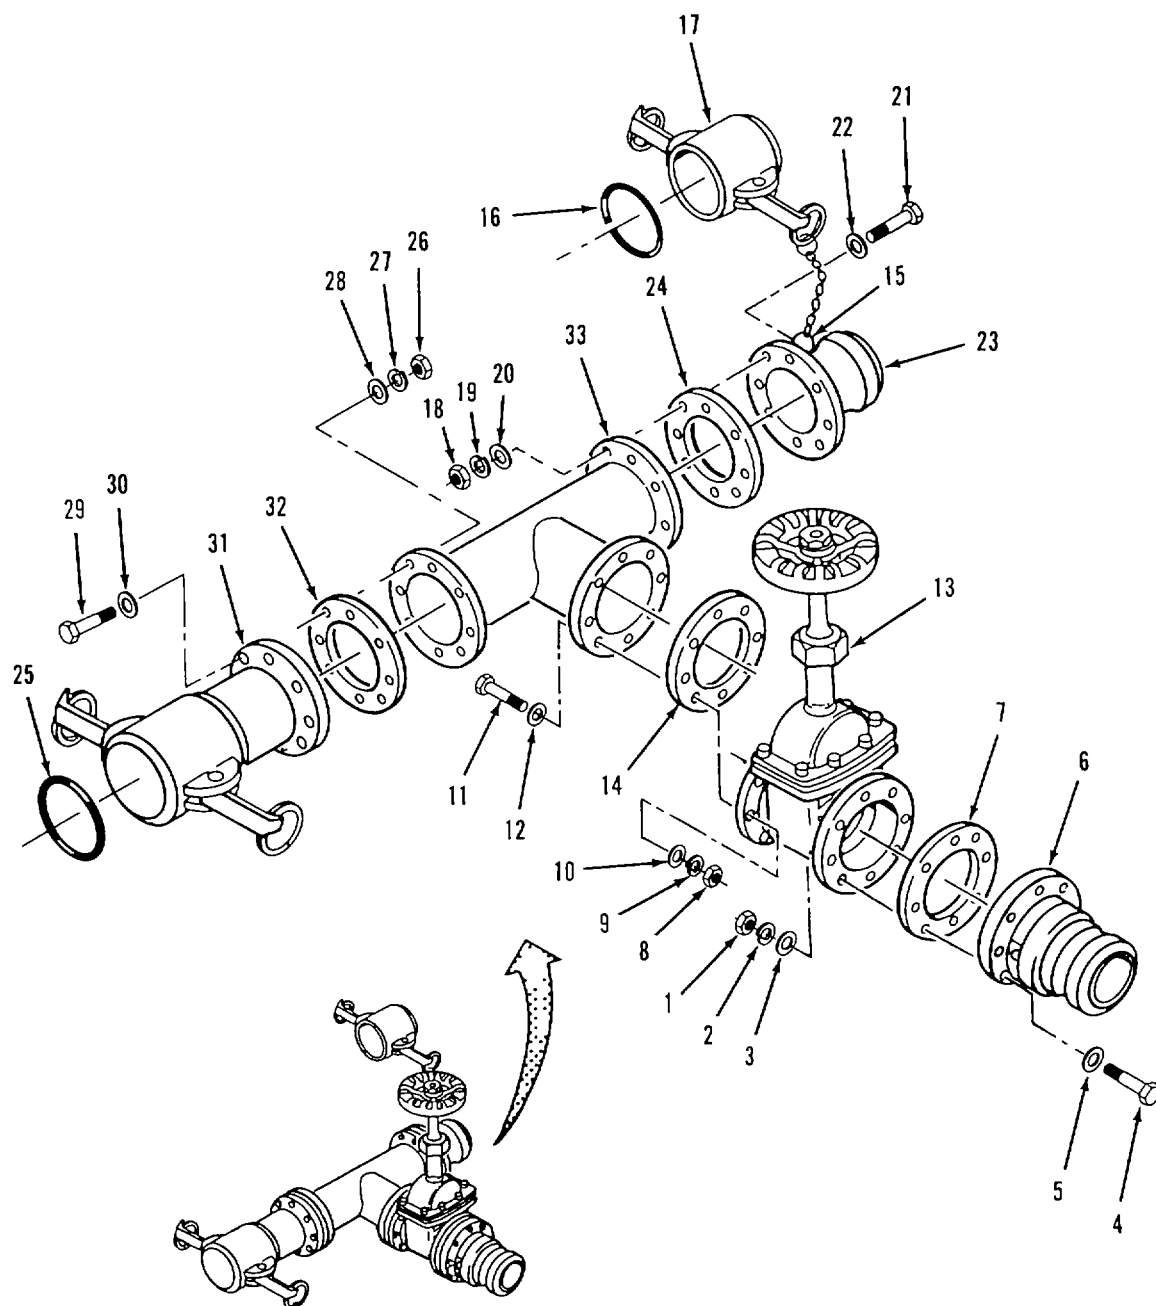

Figure 4-34. Tee and Gate Valve Assembly (9114-Y2) Assembly.
- (1) Refer to para 4-27 to repair gate valve.
- (2) Replace defective components Do not reuse sealing components.
e. Assembly. Refer to figure 4-34.
- (1) Position gasket (32) and female coupling (31) on tee (33).
- (2) Install eight flat washers (30), screws (29), flat washers (28) lockwashers (27) and nuts (26).